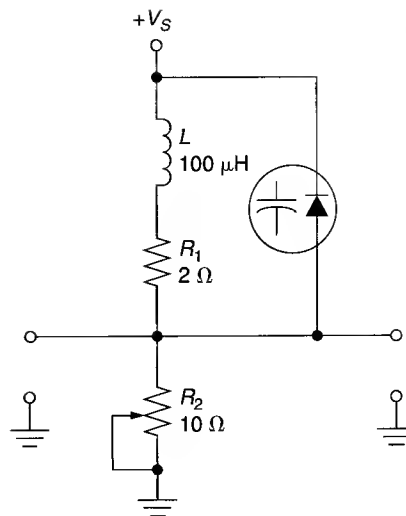

FIGURE 5.26
4. The varactor in Figure 5.26 has the following values: $C_i = 68$ pF at $V_R = 4$ V_{dc}, and $C_R = 1.12$ for $V_R = 4$ to 10 V_{dc}. Determine the resonant frequency for the circuit at $V_R = 4$ V_{dc} and $V_R = 10$ V_{dc}.